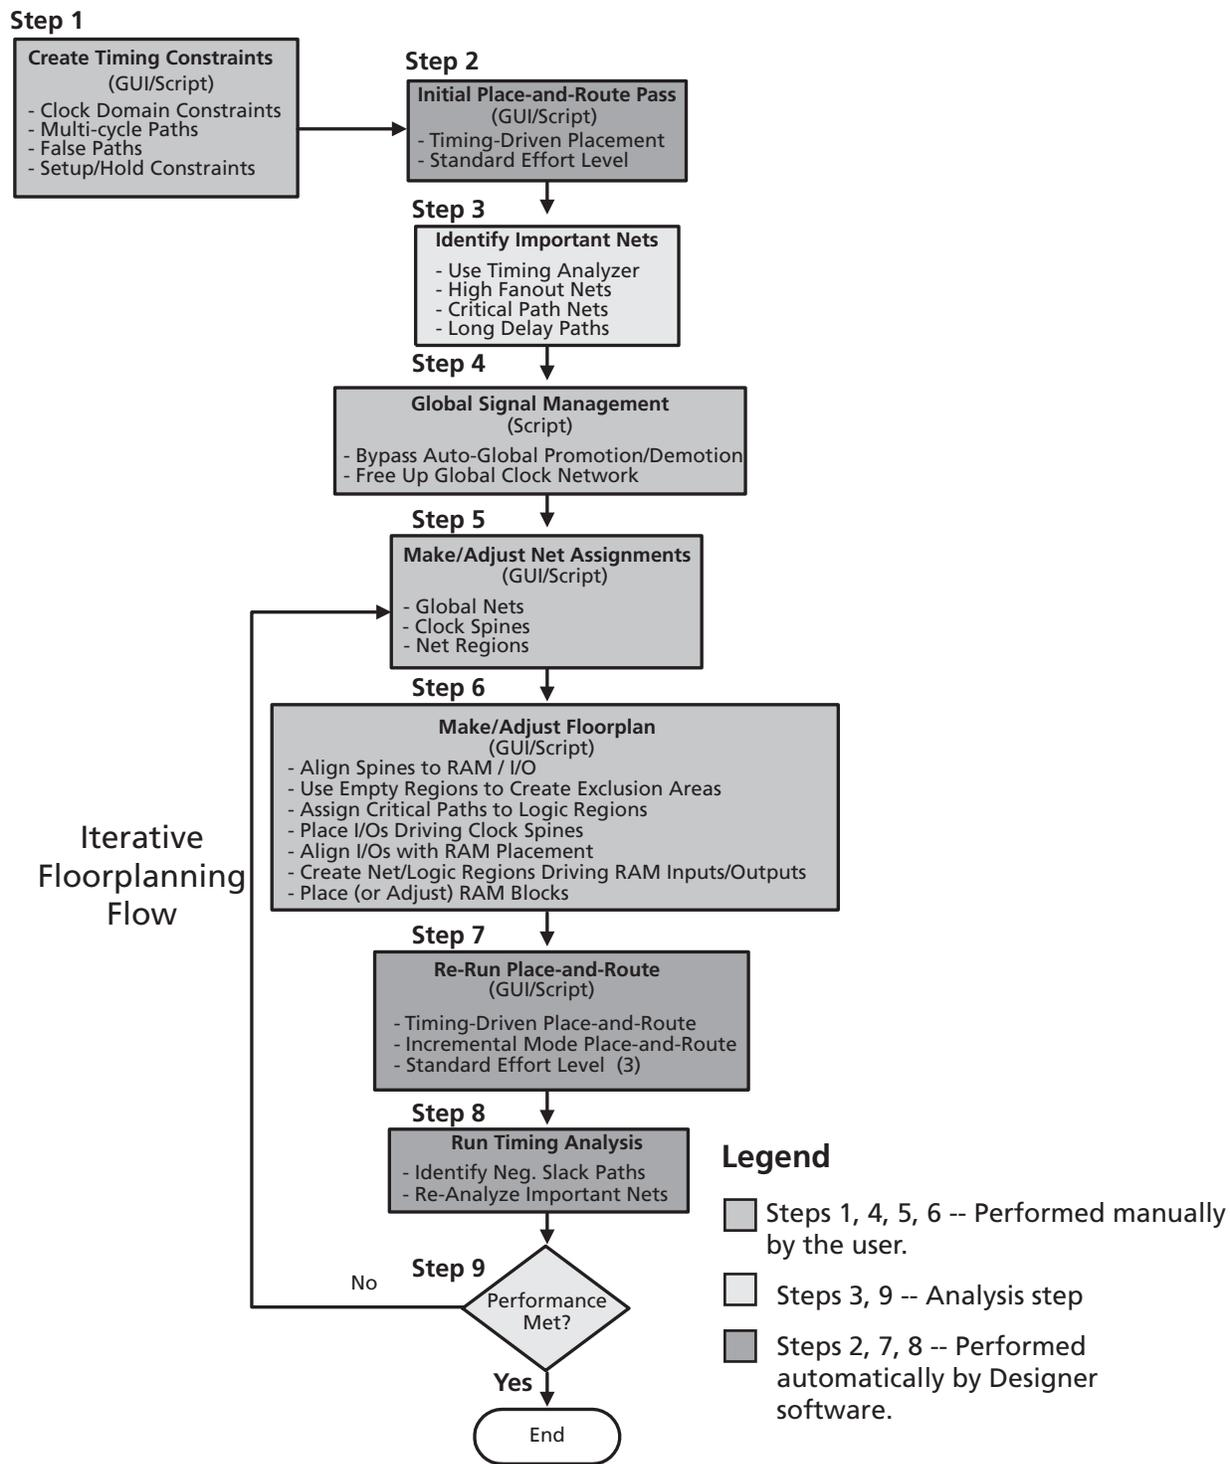

Figure 1 • ProASIC/ProASIC^{PLUS} Floorplanning Flow
- Figure 1 describes the ProASIC/ProASIC^{PLUS} floorplanning flows. Dark shaded items represent actions you need to perform manually while light shaded items are actions automatically performed by the Designer software. Each step of the usability flow will be discussed in more detail below.
The ProASIC/ProASIC^{PLUS} guidelines listed below illustrate in detail the nine steps performed in the ProASIC/ProASIC^{PLUS} usability flow shown in Figure 1 on page 3. Under each step detailed guidelines are given with the following exceptions: